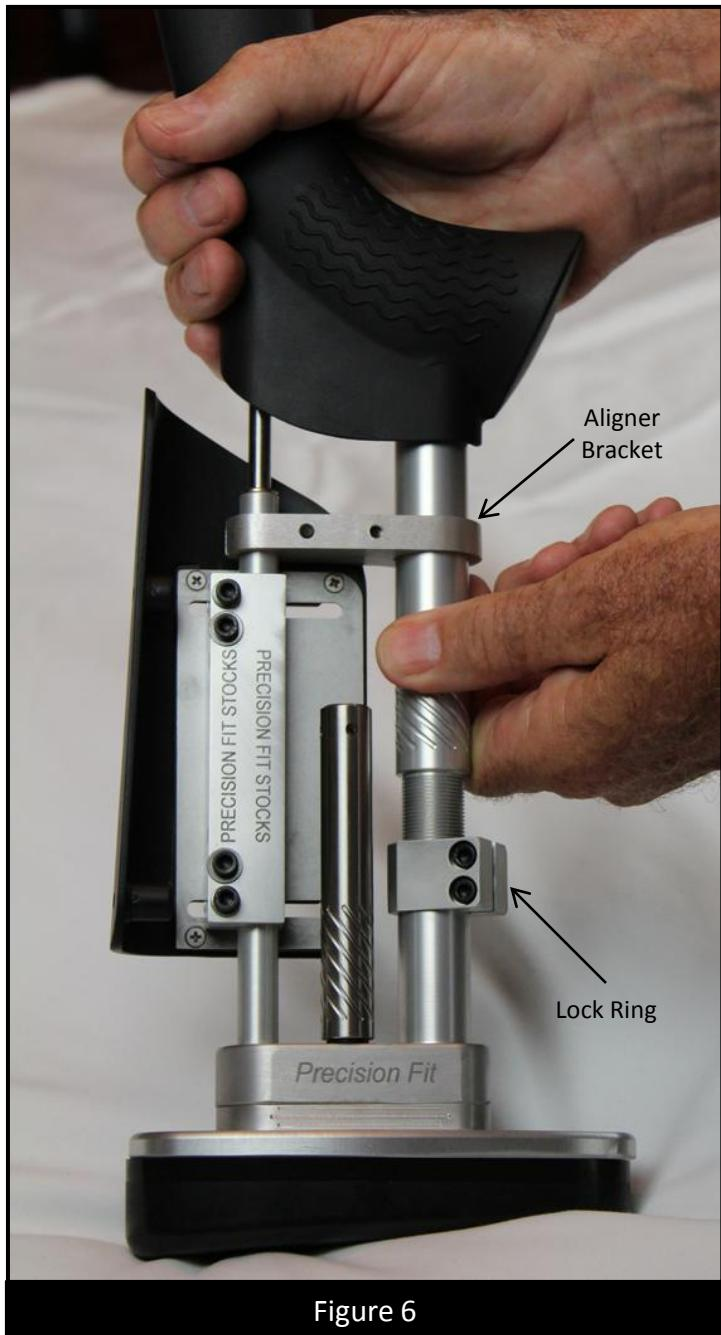

Figure 6
3. Push down on top of the absorber unit to compress it slightly and turn the absorber tube [Ident. 2) clockwise to shorten or counter-clockwise to lengthen it. (*Figure 6*)